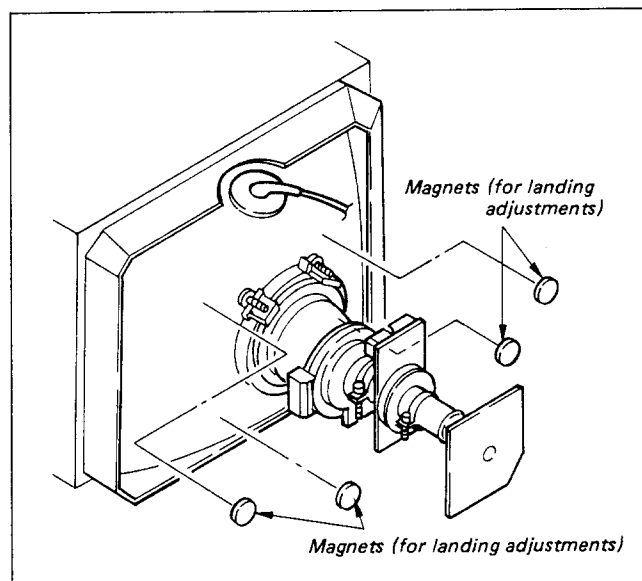

Fig. 2-5-1
- 6) Attach magnets on the panel side if necessary as shown in Fig. 2-5-1. (Do not exceed one magnet at each corner.)